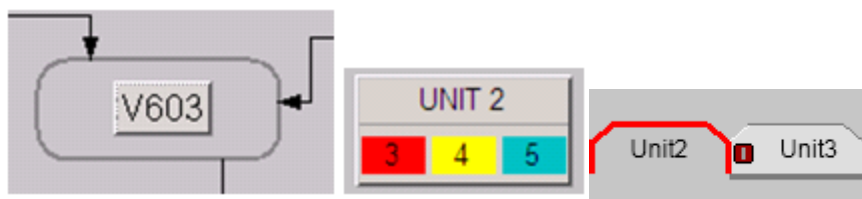

Figure 32: Alarm Navigation Shapes
**Notice!** The dynamic alarm behavior in the shapes in Figure 32 is based on the use of alarm groups. For more information, see chapter Chapter 3, “Alarm Management”.